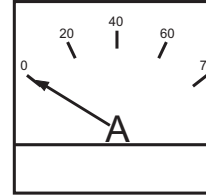

Figure 23. Ammeter (No Load)
7. The ammeter (Figure 23) will indicate zero amps with no load applied. When a load is applied, this meter will indicate the amount of current that the load is drawing from the generator.